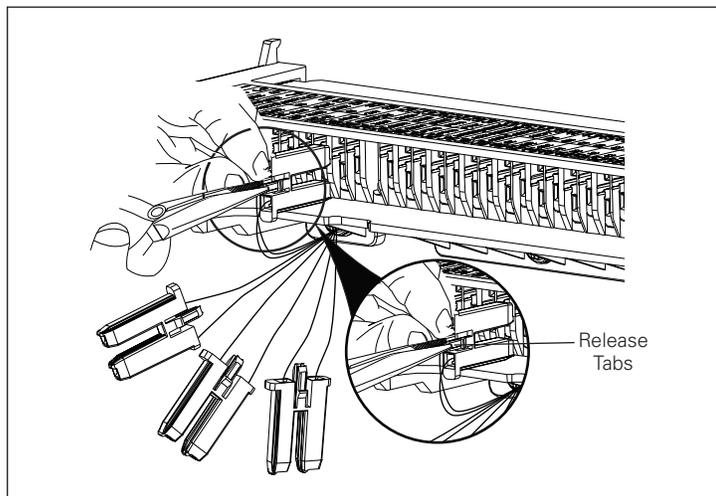
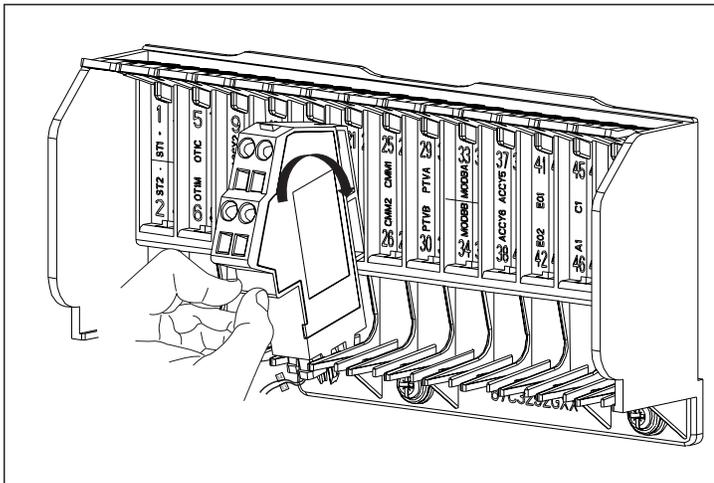

Figure 31. Connector Plug Removal.
Figure 35. Step 4.
2. Secondary connections are made by plugging the connector plugs into the appropriate location. A connector plug already connected can be removed by squeezing two release tabs together with small needle nose pliers and pulling out (Figure 31).
**Step 5:** To remove an accessory plug on a fixed circuit breaker, the appropriate fixed secondary terminal block must first be removed. To remove a fixed secondary terminal block, lift up on the small flexible mounting tab at the top of the fixed terminal block mounting plate, and rotate the terminal block out in the opposite direction shown in Figure 35. Once the terminal block is removed, the accessory connector plug can be unplugged from the bottom of the terminal block. Refer to Item 2 and Figure 31 under the heading “General information” in this section for detailed assistance with the removal.
**Step 3:** To remove an accessory connector plug on a drawout circuit breaker, unplug it from its secondary plug housing. Refer to Item 2 and Figure 31 under the heading “General information” in this section for detailed assistance with the removal.